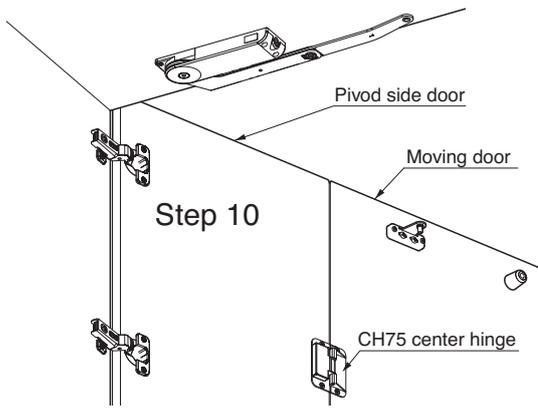

Fig. 9 Installation of doors (for right-hand side)
- step9 Install the slide hinges to the Pivot side door (Fig. 9).